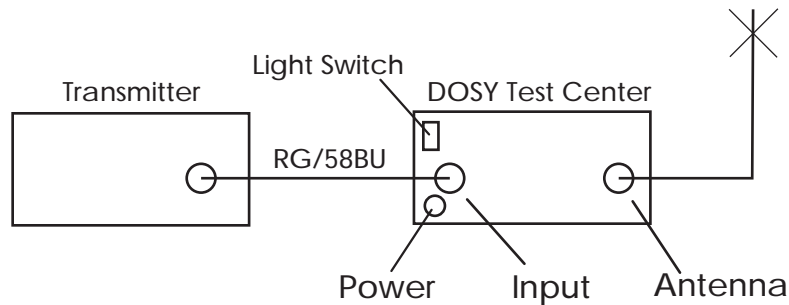

Figure 1
The TC-3001-P Test Center will indicate the power output (in watts) of your equipment at the point in the transmission line where you have installed the test center. To measure any power from 1 to 1000 watts, just set the RF Power Range Switch (#6 FIG. 1) to the appropriate range: 10, 100, 1000 watts. Key the transmitter and read the wattage on the corresponding scale of the RF Power Meter (#2 Fig. 1).
1. Operate SWR Set Control Switch (#4 Fig. 1) to Set Position.
2. Turn SWR RF Level Control (#5 Fig. 1) to Min.
3. Key transmitter and turn SWR RF Level Control clockwise (#5 Fig. 1) to give a full scale meter reading to Set Line on the SWR Meter (#1 Fig. 1).
1. Operate MOD SET Control Switch (#8 Fig. 1) to SET position.
2. Turn MOD RF Level Control (#7 Fig. 1) to Min.
3. Key transmitter and turn MOD RF Level Control (#7 Fig. 1) clockwise to give a full scale meter reading to Set on the Modulation Meter (#3 Fig. 1)
4. Operate MOD SET Control Switch (#8 Fig. 1) to MOD position. Key transmitter and talk or steadily whistle into the microphone. Read Modulation percentage directly on the modulation meter (#3 Fig. 1)